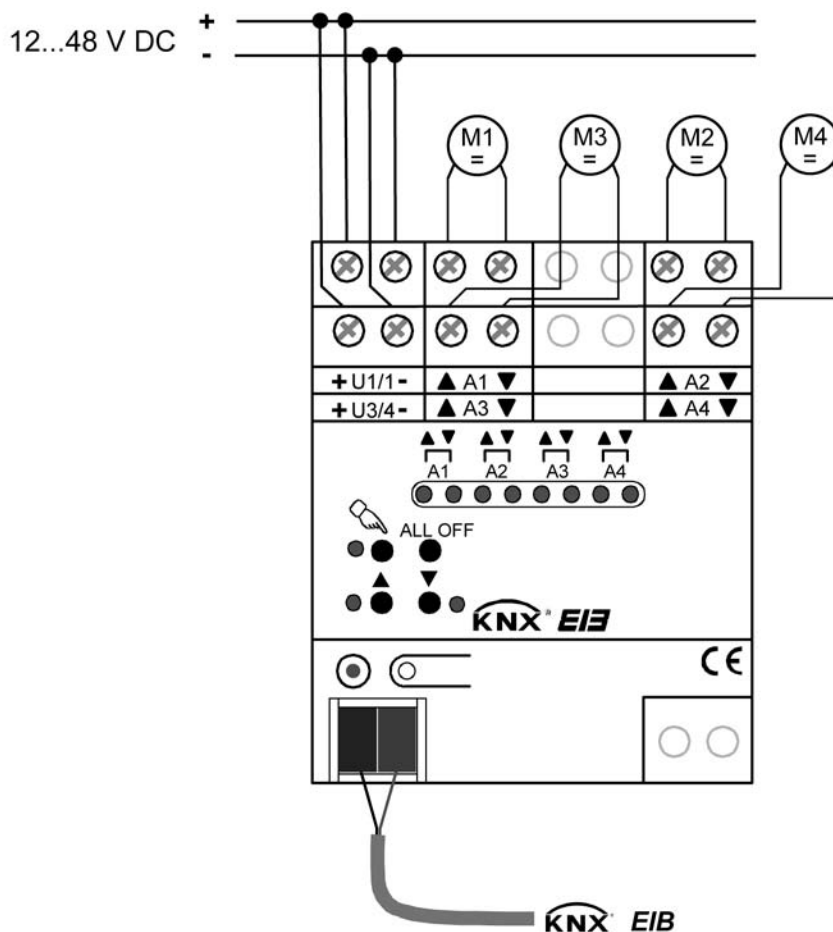

Figure 2: Electrical connection
- Make the bus connection, connection of the supply voltage and of the drive motors in accordance with connection illustration (Figure 2).